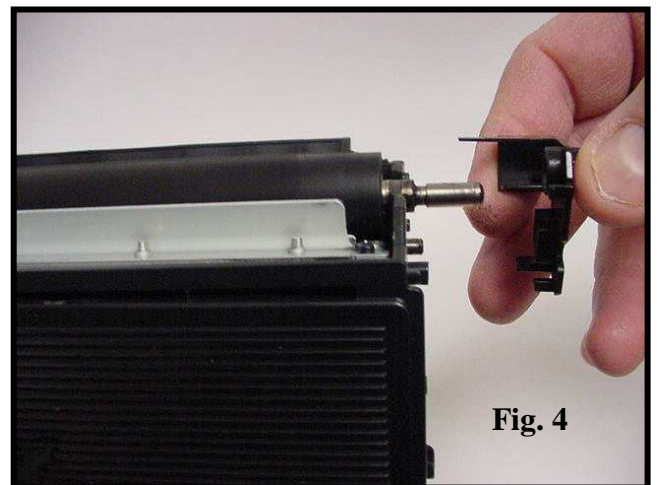

Fig. 2
2. Remove one screw from the end plate (Fig. 2). Remove end plate.